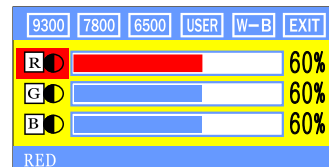

Fig.8
1. Color adjustment (): when the function is selected, the monitor will come into the sub-menu [Fig.8], there are five functions that can be selected: a,9300k; b,7800k; c,6500k; d, USER; e, W-B. Selecting USER, you will enter user mode and you can make adjustment to R/G/B values to obtain your satisfying color ; Selecting W-B,it will enter the color balance mode, and the monitor will automatically adjust the white-black color reference voltage to obtain optimal color balance.